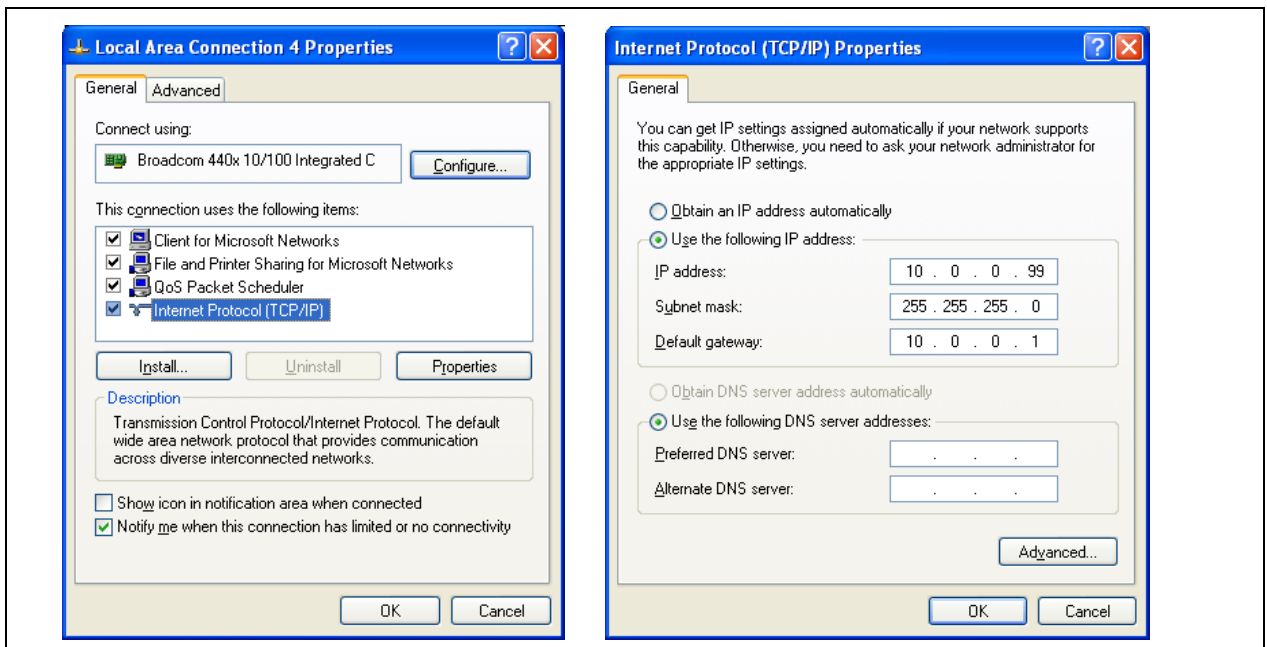

Figure 8-1: Computer Network Configuration for Static IP Address (Examples)
3. In the Network Connections window, double-click the Local Area Connection shortcut corresponding to the computer's network card (having the Ethernet port/jack that the station will be connected to). This will open the respective Local Area Connection Properties dialog box for this network card. An example is shown in Figure 8-1 (left image).
6. Enter the required subnet mask via the Subnet mask text box. This mask should be the same as subnet mask used by the CS7000 Control Station's Remote Control (Plus) Board (default = 255.255.255.0). At a minimum, the subnet mask should be set so the CS7000 Control Station and the configuring computer are on the same "network." An example is shown in Figure 8-1 (right image).